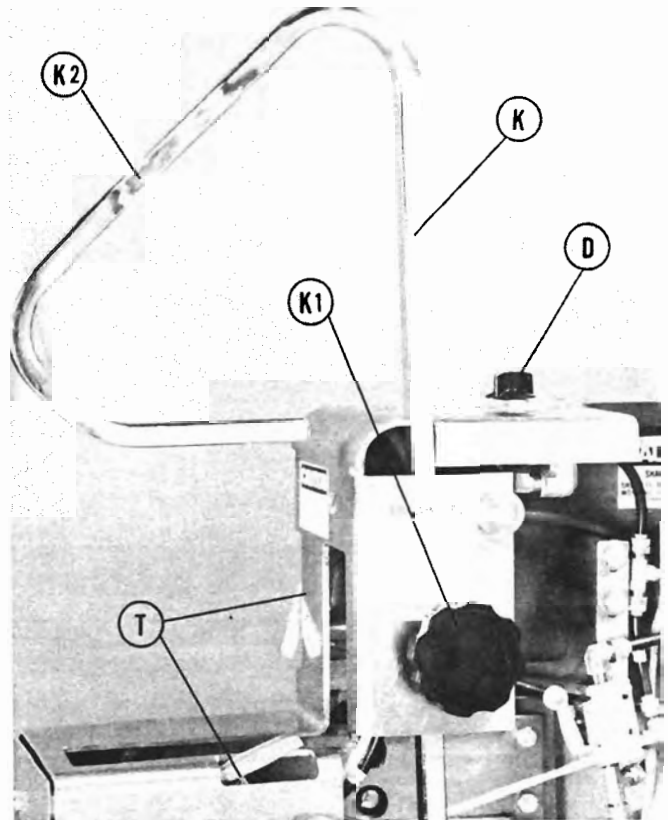

FIGURE 6 HOLD DOWN SKI - BOTTOM TAPING POSITION - RIGHT SIDE VIEW
- F. Set the on-off valve knob (Figure 6) in "OFF" position and connect the main air supply.
- A. For bottom taping - Refer to Figure 6. Install the ski (K) through the ski clamp behind the knob (K1) with the hold down loop (K2) in the position shown.
Turn "ON" the main air supply at the "ON-Off" valve (D, Fig. 6) and the applicator is ready to operate.
- B. Actuator - refer to Figure 6. Lubricate actuator pivot points (T) periodically.